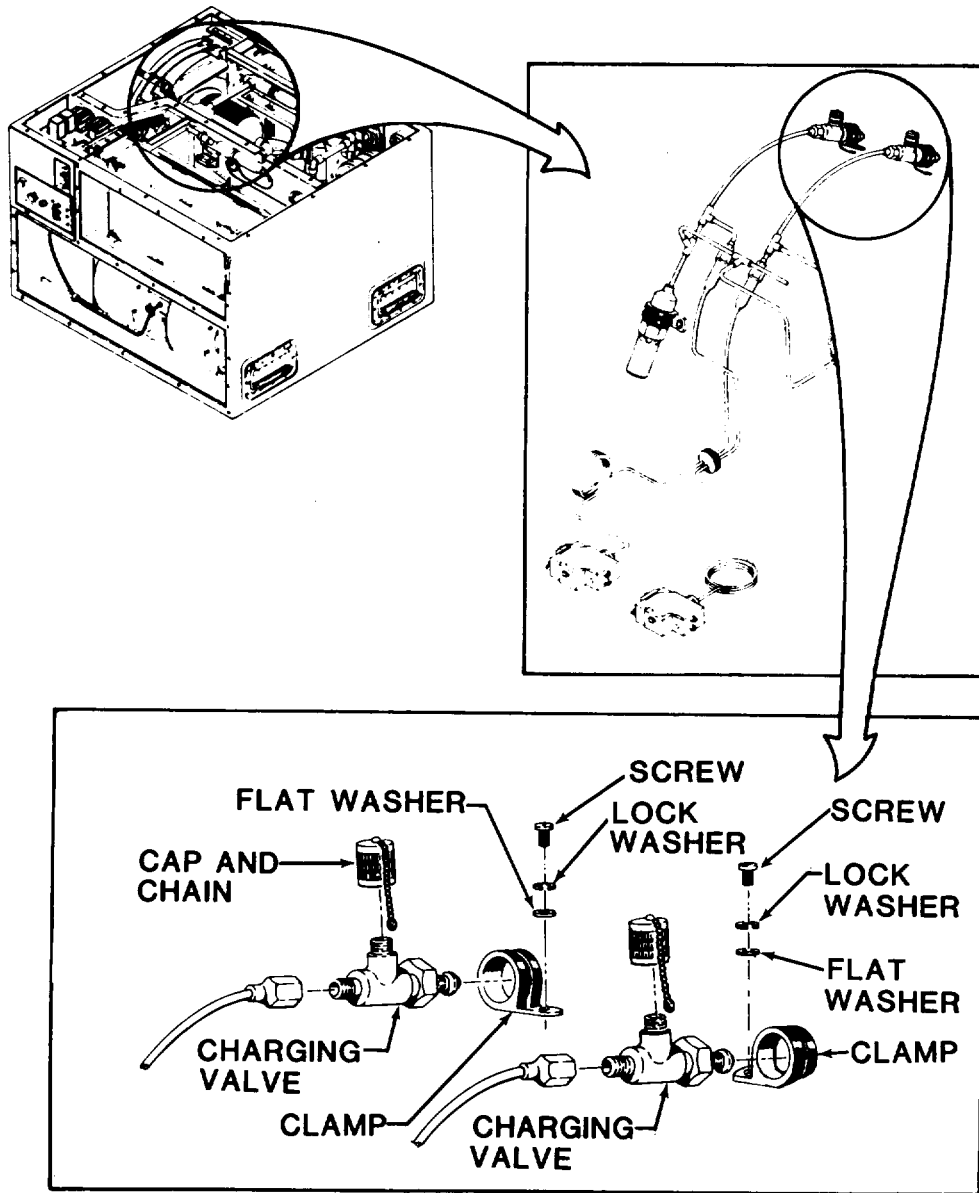

Figure 5-16. Service (Charging) Valves
a. Removal. (See fig. 5-16.)
(1) Disconnect power at power source.
(3) Discharge and purge refrigeration system per paragraphs 5-11 and 5-12.
(4) Remove screw, lock washer, flat washer, and loop clamp from the valve to be replaced.
(5) Disconnect flare nut from valve to be replaced and remove valve from unit.